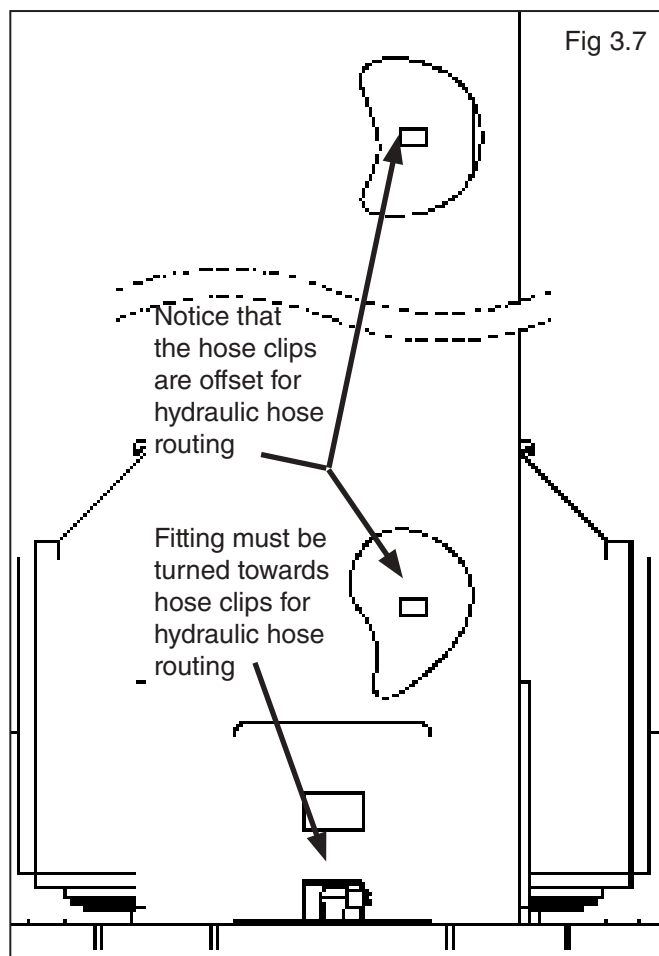

Fig 3.7
5. Install the cylinder fittings in cylinder ports. Pay attention when installing the fittings to ensure that each fitting points towards the side of the post that the hose retainer clips are located on. (See Fig 3.7)